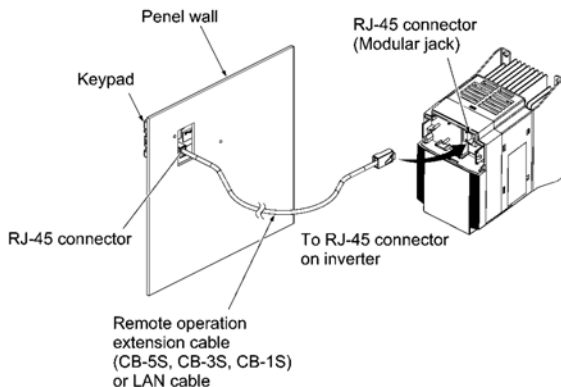

Figure 2.28 Connecting a Keypad and an Inverter's Standard RS-485 port
- ⑤ Connect an extension cable (CB-5S, CB-3S or CB-1S) or off-the-shelf straight LAN cable to RJ-45 connectors (Modular jacks) on the keypad and inverter (standard RS-485 port.) (Refer to Figure 2.28)